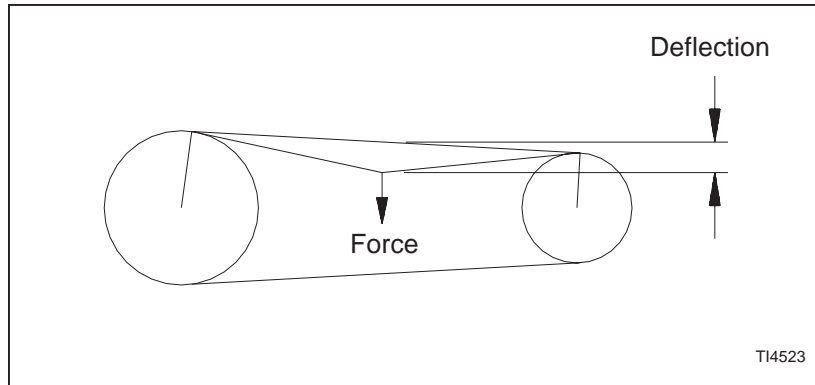
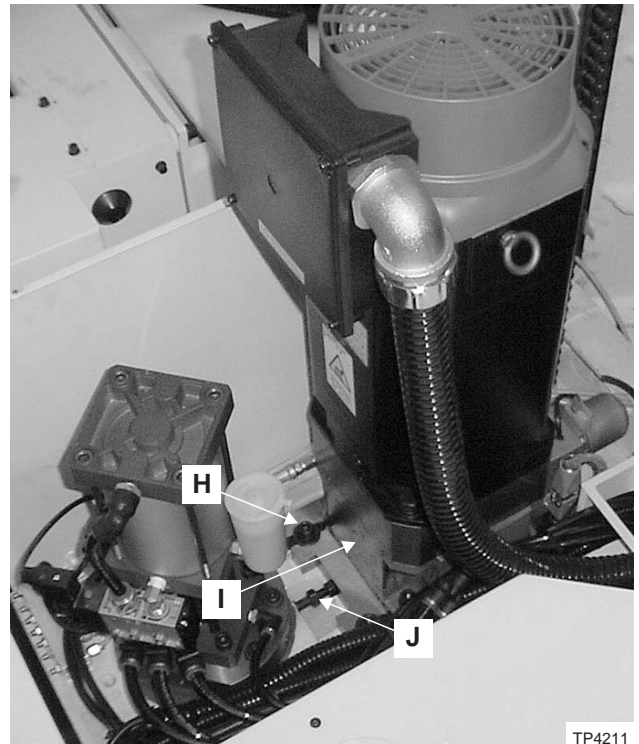

Figure 5.6 - Spindle Belt Deflection
Figure 5.8 - High-Torque Gear Box and Adjustment Screws (shown with Fanuc motor)
Check the drive belt tension frequently across all belts approximately at the midpoint between pulleys, as shown in Figure 5.6.
The spindle drive belt connects high-torque gear box “I”, Figure 5.8, to the spindle pulley. Check the drive belt tension at least once a week during the first month of operation or more frequently if spindle performance is inconsistent. Check the belt tension approximately every 1000 hours of operation after the first month of operation. Read the drive belt tension near the mid-point between pulleys, as shown in Figure 5.6.
5. When necessary to adjust the belt, loosen four mounting screws “H”, Figure 5.8, on the gear box flange and locking nut on adjusting screw “J”.